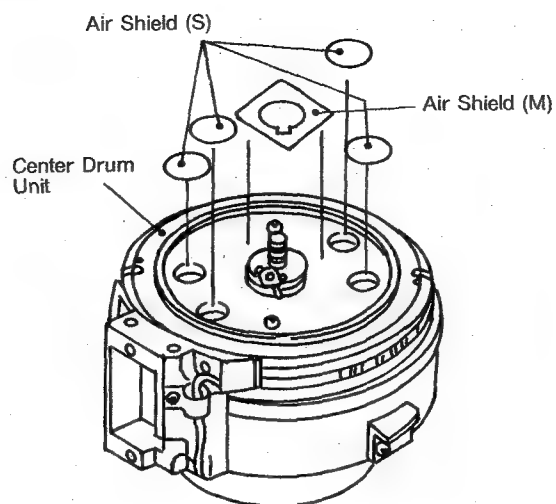

Fig. 7-5-1
- 1) Remove 4 pcs of Air Shield (S) and a Air Shield (M) from Center Drum Unit as shown in figure 7-5-1.